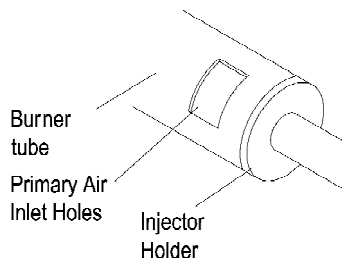

Figure 24-Injector Holder on Outlet Burner Tube
2. Inspect burner, pilot and primary air inlet holes on injector holder for dust and dirt (See Figure 24).